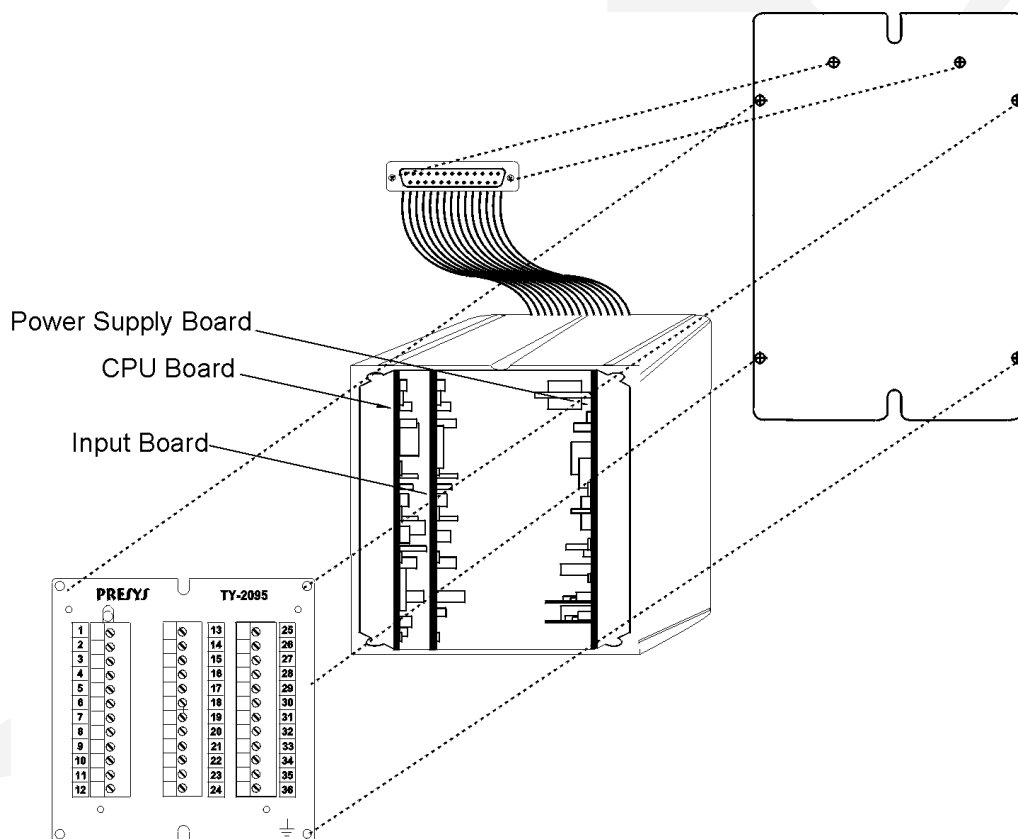

Fig. 20 - Converter Dismounting Scheme
- i) Remove all screws indicated by a dashed line according to figure 20 below, totaling 10 screws.